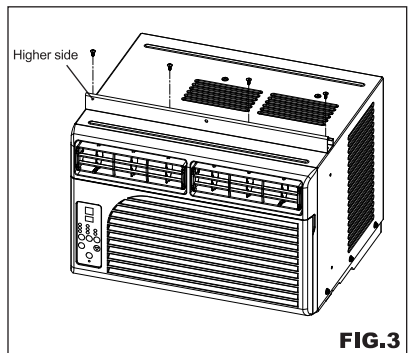

FIG.3
- Secure the upper guide to the unit with 3/8" short screws as shown in FIG.3.